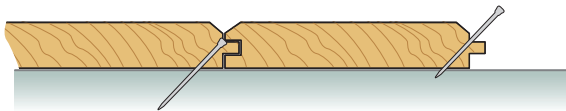

Figure 28-14 Blind Nailing
3. Face nail the first board along the edge that is against the corner. Then blind nail the panel by driving 5d or 6d finishing nails at an angle through the tongue edge as shown in **Figure 28-14**. In **blind nailing**, the nails are driven at an angle through the tongue of the board